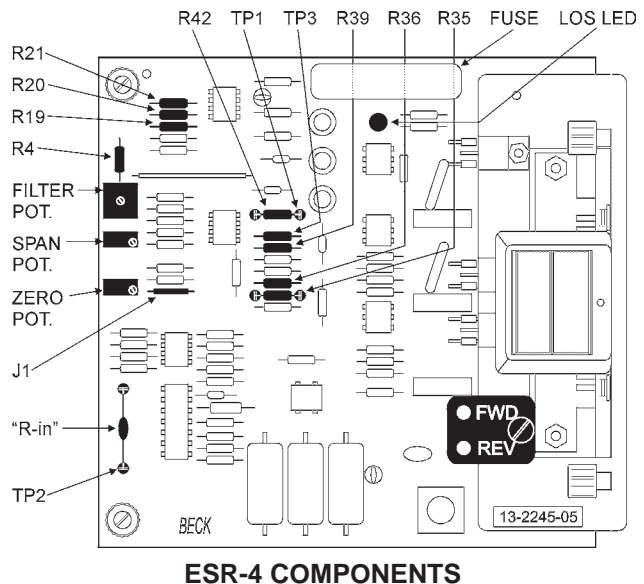

Figure 11
Span and zero adjustments are located near the edge of the ESR-4 board (see Figure 11, page 31). Monitor the FWD and REV lamps to make adjustments. When the drive is balanced or in L.O.S. mode, both lamps are on. When the output shaft is moving, the lamp designating its direction of travel goes out. When the drive reaches its end of travel before balance is achieved, the lamp will stay out. Trim the adjustment so that the drive just reaches the limit switch and the motor does not run. Clockwise rotation of either span or zero adjustment causes the output shaft to drive toward the zero (minimum input signal) position.
4. Short out resistor R35 temporarily with a clip lead (see Figure 11, page 31, for location of R35). NOTE: Drive will retract.
The basic span adjustment of the ESR-4 is 2 volts to 6 volts dc. This is adjustable with the 20 turn span potentiometer. To make the span adjustable from 2 to 9.5 volts dc, remove resistor R4. To make the span adjustable from 9.5 to 16 volts dc, remove R4 and cut jumper wire J-1. To make the span adjustable from 12 to 16 V dc, remove R4 and J1. See Figure 11, this page, for location of R4 and J1.
The basic zero adjustment is -20% to 100% of span. This is adjustable with the zero potentiometer. For 2-way split range applications, remove resistor R35 to shift the zero adjustment to 20% to 150% of span. For 3-way split range operation, remove resistors R35 and R36 to shift the zero adjustment to 150% to 275%. For other split range applications, consult factory for adjustment. See Figure 11, this page, for location of R35 and R36.
See Figure 11, this page, for the location of R39. Higher gains (reduced deadbands) are also possible with the ESR-4. Consult your factory representative for details.